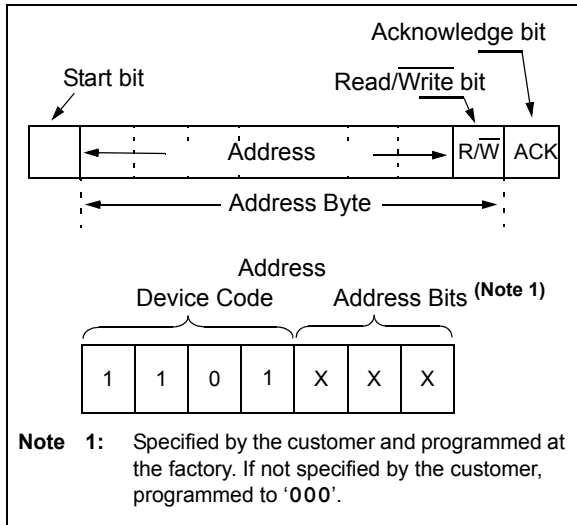
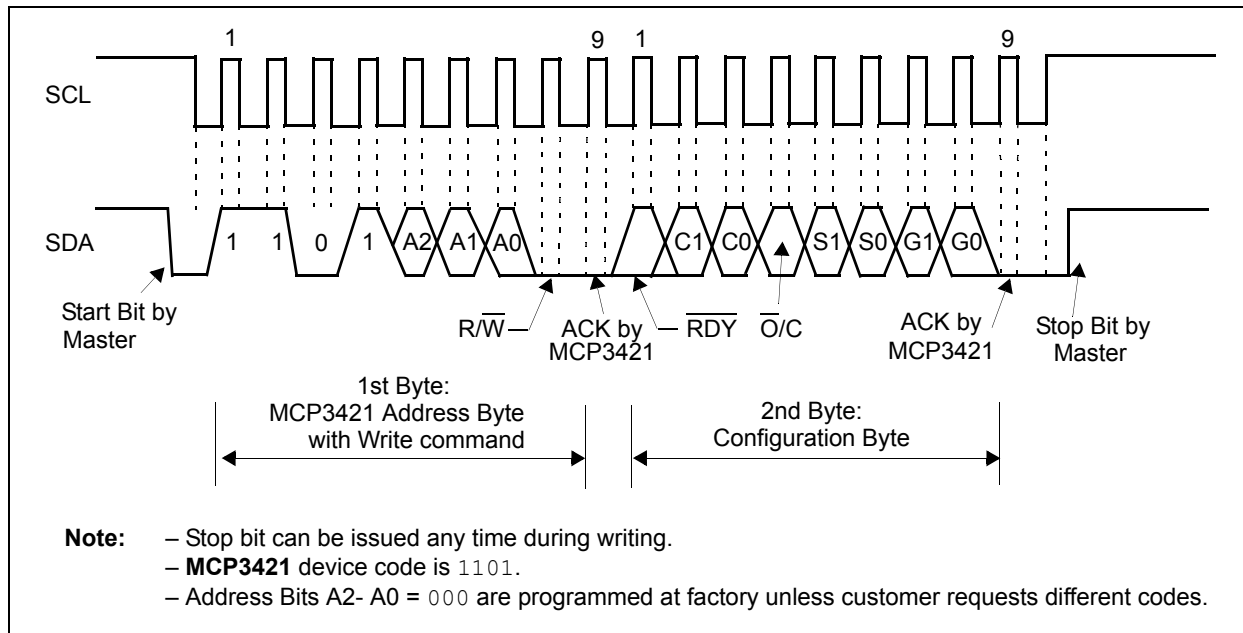
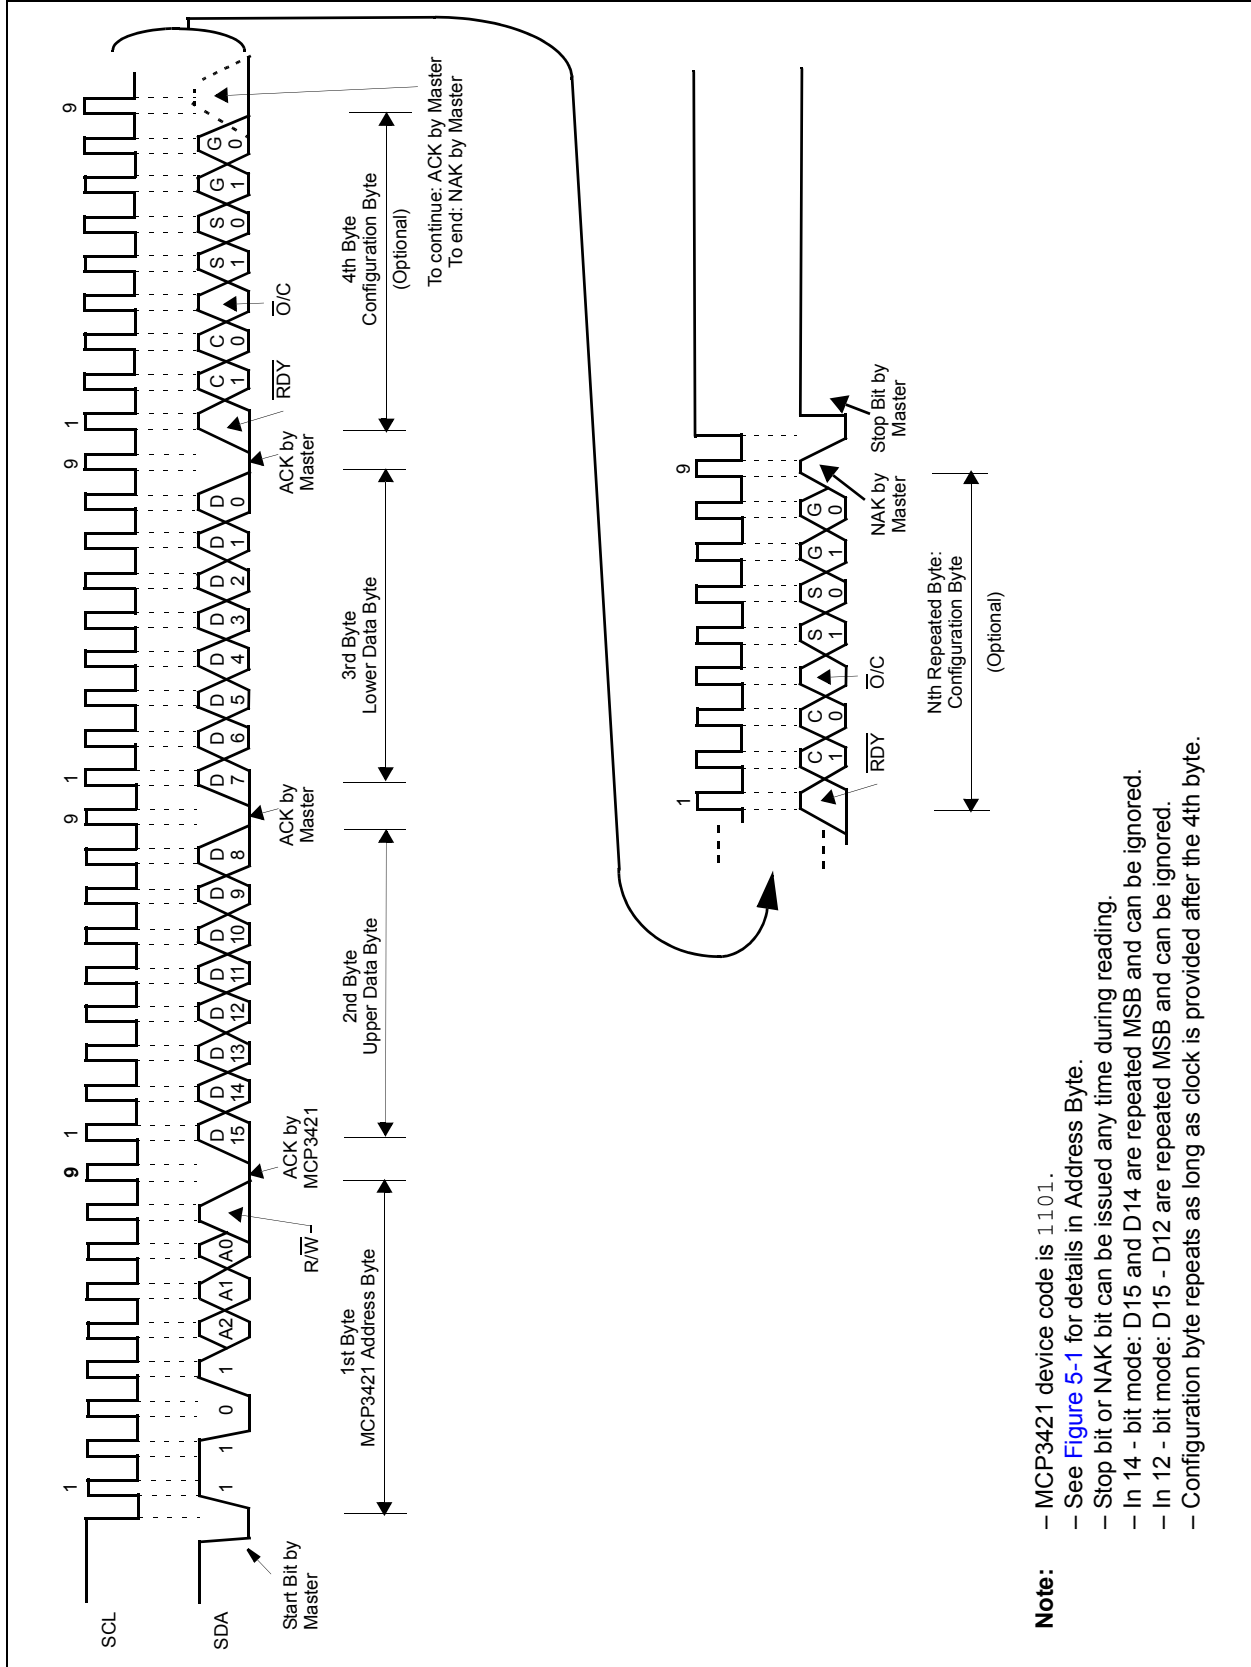

FIGURE 5-1: MCP3421 Address Byte.
FIGURE 5-2: Timing Diagram For Writing To The MCP3421.
FIGURE 5-4: Timing Diagram For Reading From The MCP3421 With 12-Bit to 16-Bit Modes.
The user operates the device by setting up the device configuration register using a write command (see Figure 5-2) and reads the conversion data using a read command (see Figure 5-3 and Figure 5-4). The device operates in two modes: (a) Continuous Conversion Mode or (b) One-Shot Conversion Mode (single conversion). This mode selection is made by setting the $\overline{O/C}$ bit in the Configuration Register. Refer to Section 5.2 “Configuration Register” for more information.
Figure 5-3 and Figure 5-4 show the examples of reading the conversion data. The user can rewrite the configuration byte any time for a new setting.
Figure 5-1 shows the address byte. Figure 5-2 through Figure 5-4 show how to write the configuration register bits and read the conversion results.
- See Figure 5-1 for details in Address Byte.